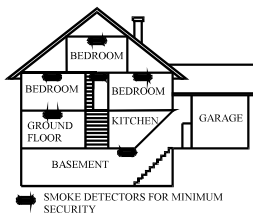

Figure 3: Location for placing smoke detectors for a multi-floor residence
- ◆ Install a smoke detector on every floor of a multi-floor home or apartment, as shown in Figure 3.